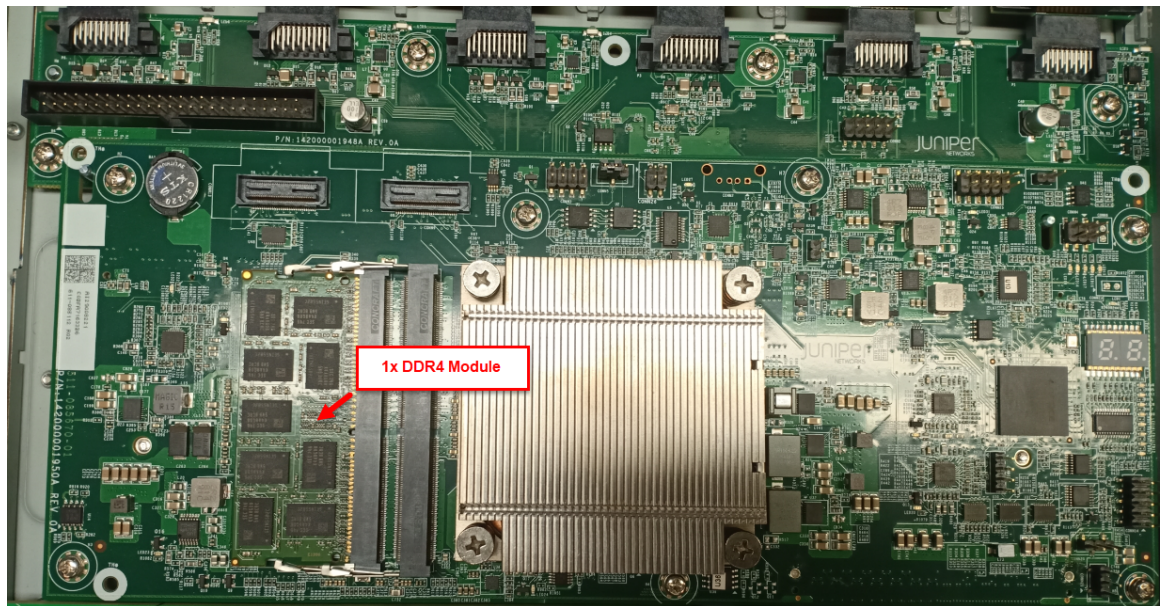

Figure 3-7: Locate volatile storage device on CPU board
9. Locate volatile storage device on CPU board (Figure 3-7).